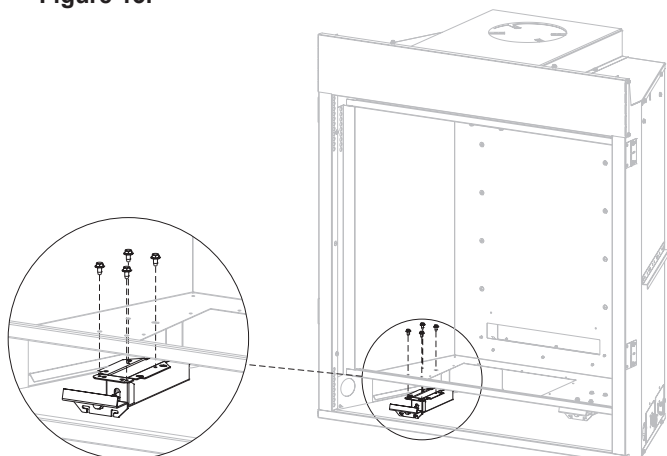

Figure 13
10. Remove the four #10 x 1/2 screws securing the latch assembly to the underside of the firebox and set aside. **See Figure 13.**